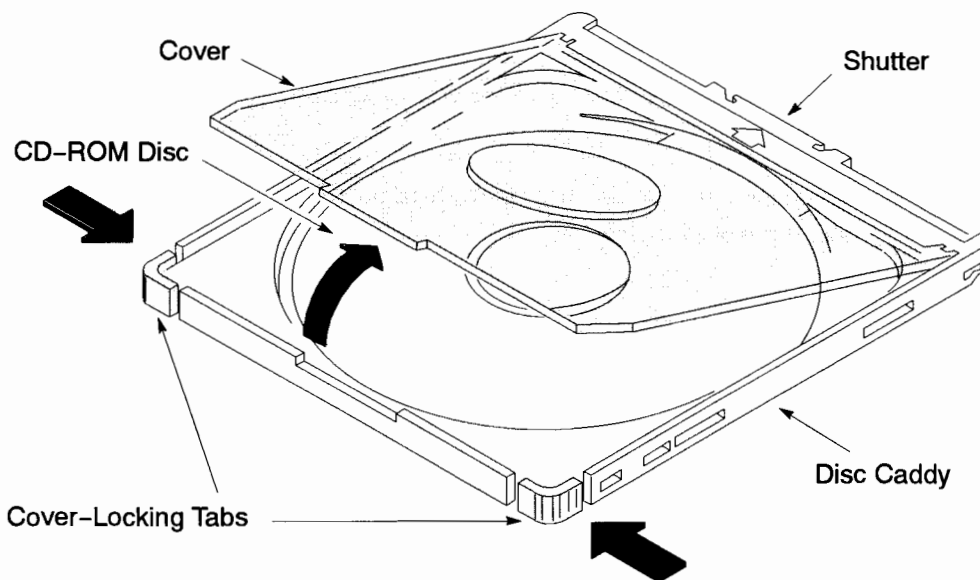

Figure 4-2. CD-ROM Disc and Disc Caddy
A CD-ROM disc mounts into a rigid plastic caddy, similar to a 3.5-inch floppy disk (see Figure 4-2). The drive accesses data on the CD-ROM disc through a shutter in the bottom of the caddy. When you insert the disc caddy into the drive, the shutter opens automatically to expose the disc surface. When you eject the disc caddy from the drive, the shutter closes to protect the disc surface.
To open the CD-ROM disc caddy, press inward on the two cover-locking tabs and lift the cover, as shown in Figure 4-2.
- 1.** Open the disc caddy by pressing inward on the two cover-locking tabs and lifting the cover, as shown in Figure 4-2.